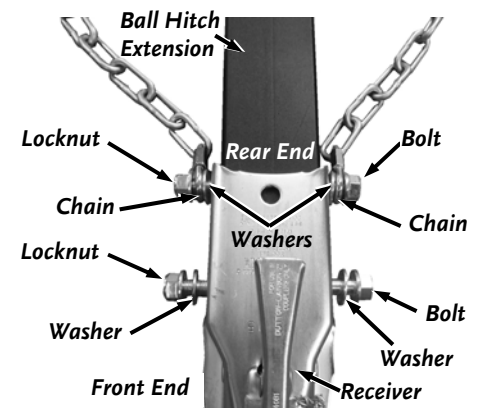

Figure 14
2. Position the Receiver on the Ball Hitch Extension from the kit and secure the Front End loosely by hand with a 1/2-13 x 5" Flanged Bolt, Flanged Locknut, and two Washers (**Figure 14**).